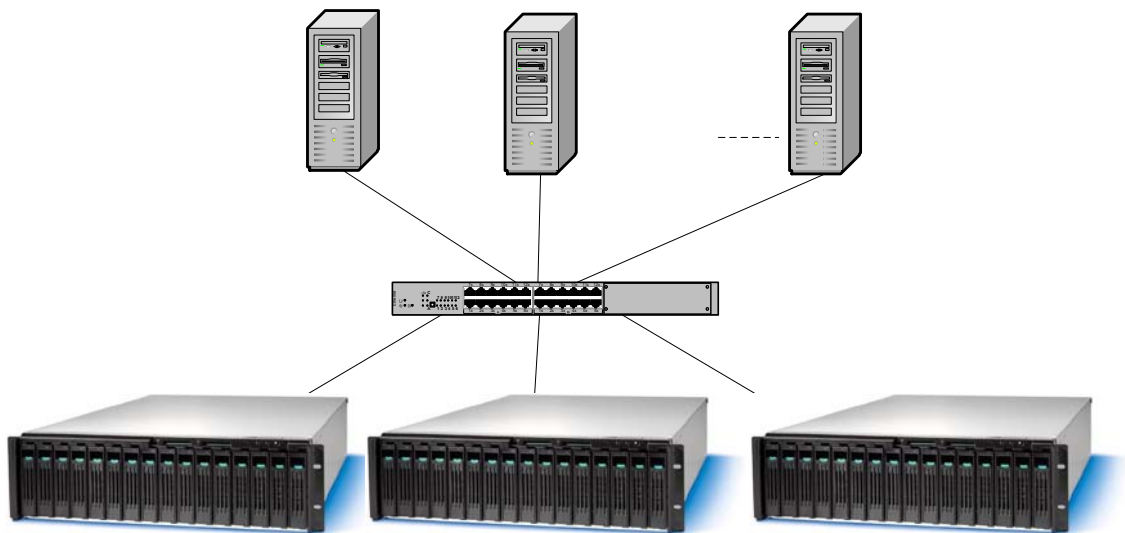

Figure 2. Ethernet Switched configuration
- C. Configure the SSR316MJ2 system to one or multiple Server Clients as shown below using the two SSR316MJ2 integrated NIC ports¹ and Ethernet multi-port switch. See Figure 2.